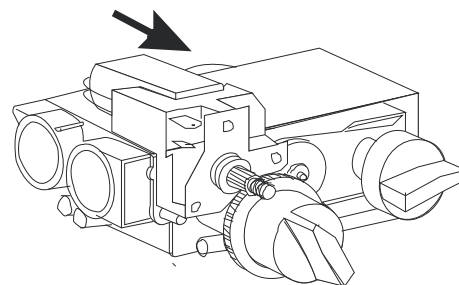
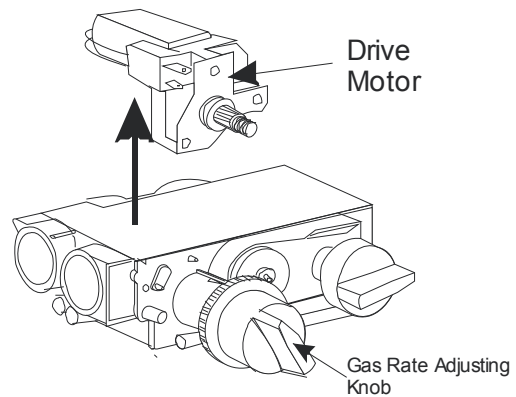

Figure 86
Figure 87
6. Turn the gas rate adjusting knob fully anticlockwise and gently manipulate the motor free from the valve (see note). (See **Figure 86** & **Figure 87**).